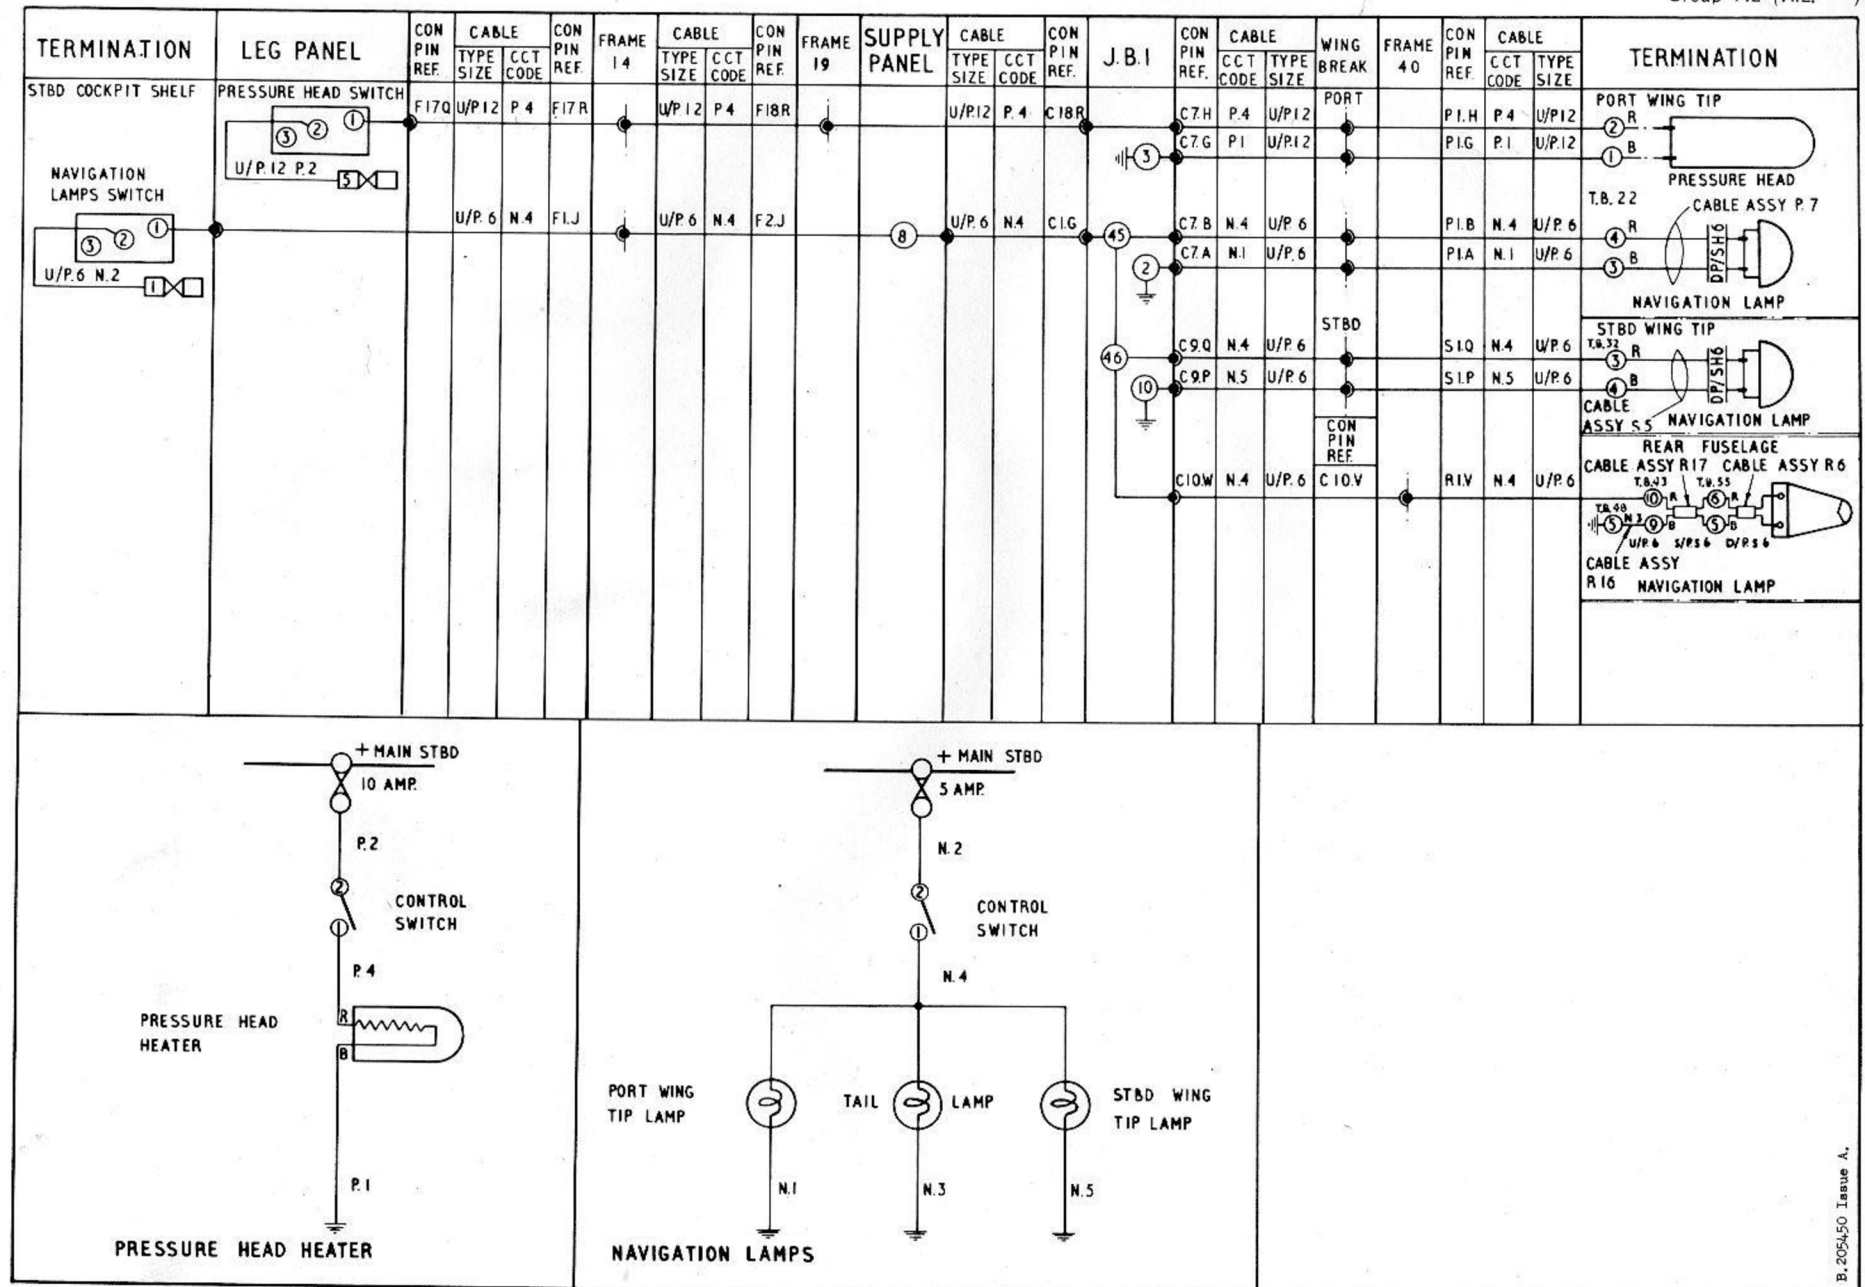

FIG. 1 NAVIGATION LAMPS AND PRESSURE HEAD HEATER
4. The operation of the navigation lamps and pressure head heater circuits should be obvious, once reference is made to the theoretical diagrams given in fig.1 of this group.